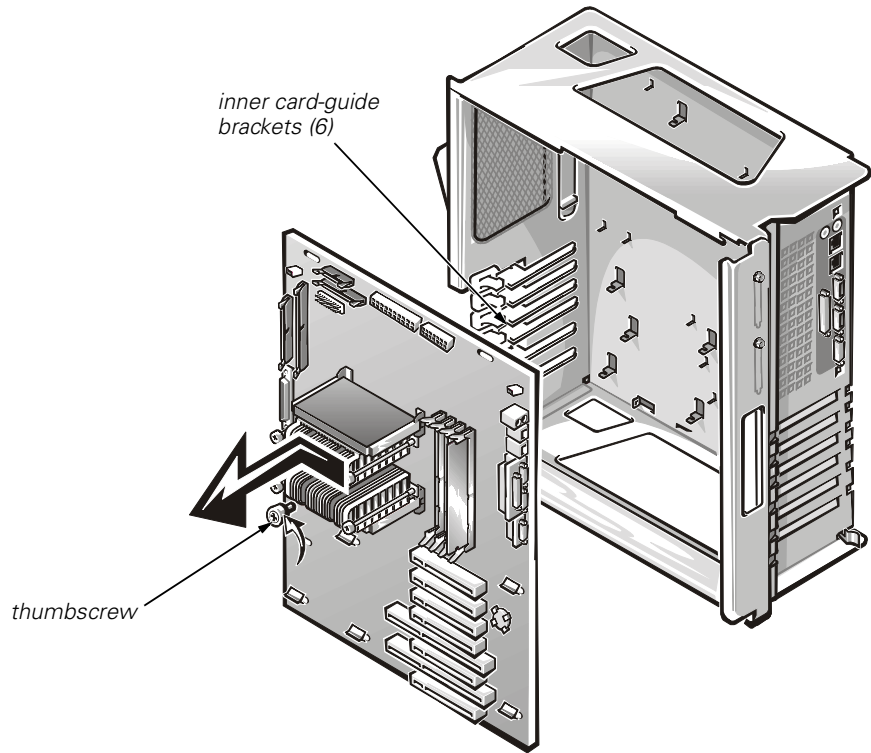

Figure 1-5. Removing the System Board
- h. Slide the system board 6.3 mm (0.25 inch) toward the front (left edge of the mounting tray, as shown in Figure 1-5) and lift the system board away from the mounting tray.